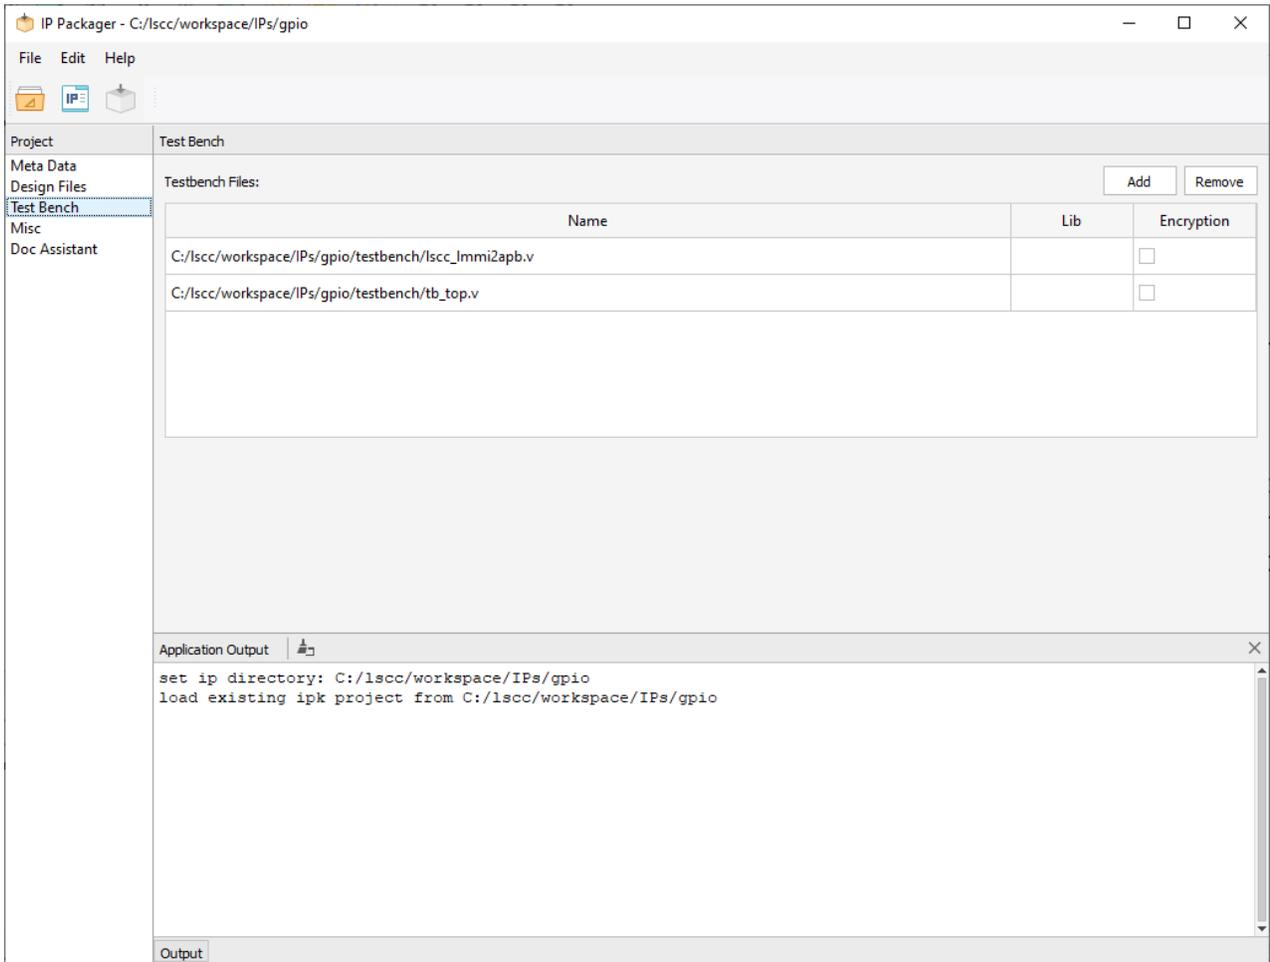

Figure 3.26. IP Packager with Test Bench Details
3. From the IP Packager Project area, click **Test Bench**. The Test Bench information is shown in detail (Figure 3.26).